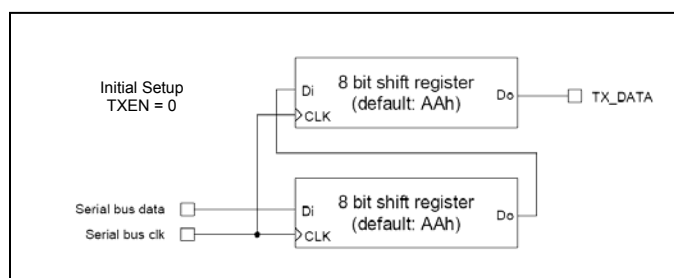

FIGURE 5. Power-up TX Register Setting
The initial value on power-up of the register is AAh. This can be used to send a preamble signal by setting Bit [5] of the *Power Management Register* (See Figure 5 below). When this bit is set, transmission begins immediately and the initial value AAh is sent. The SDO pin(4) may be monitored to see when the next byte of data may be written to the register (SDO is logic '1'). It is recommended that the register be preloaded with a preamble regardless of the POR value.